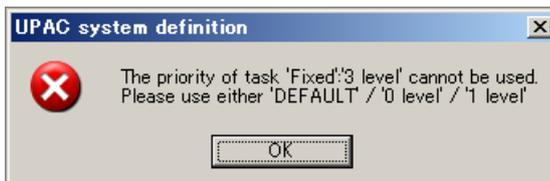

Fig. 1-3-44 Error message when you open system definition with invalid task settings
- When you try to open a system definition of a project including tasks with priority 2 or 3, you will get an error message in Fig. 1-3-44, and you will not be able to conduct the system definition.